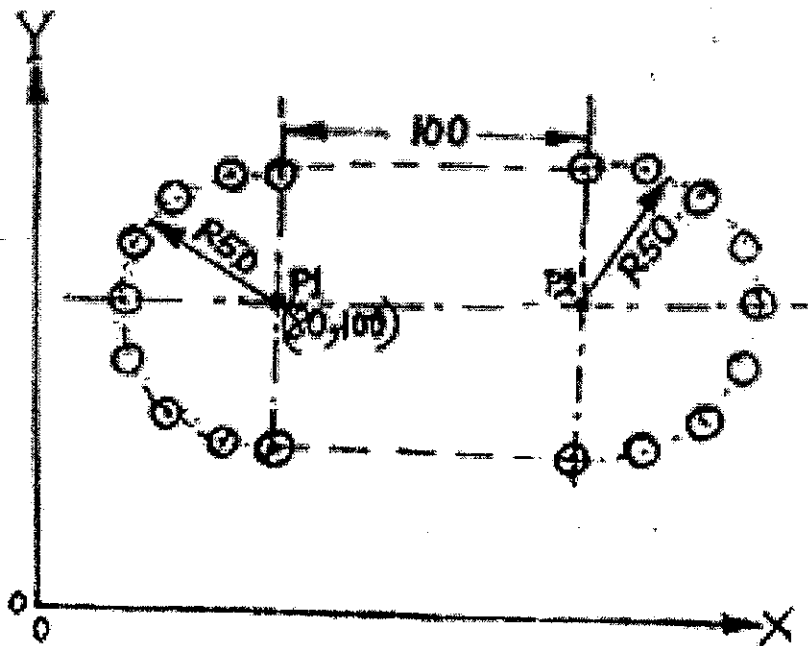

Fig 3
- c) Write an APT program for drilling holes (depth 5 mm) in a job shown in fig. 3 using a CNC drilling machine. 12